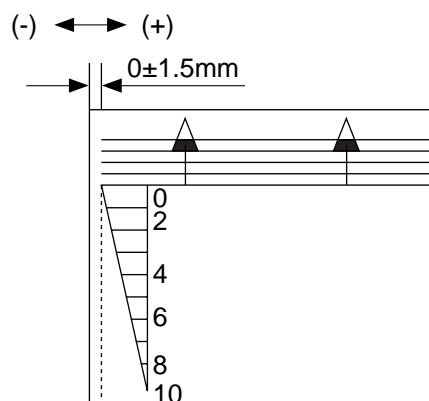

Figure 5-714
Make adjustments so that the position of the image is as shown in Figure 5-714 when the Test Sheet is copied in Direct.
- clockwise turn: moves the paper in the direction of - shown in Figure 5-714
- counterclockwise turn: moves the paper in the direction of + shown in Figure 5-714